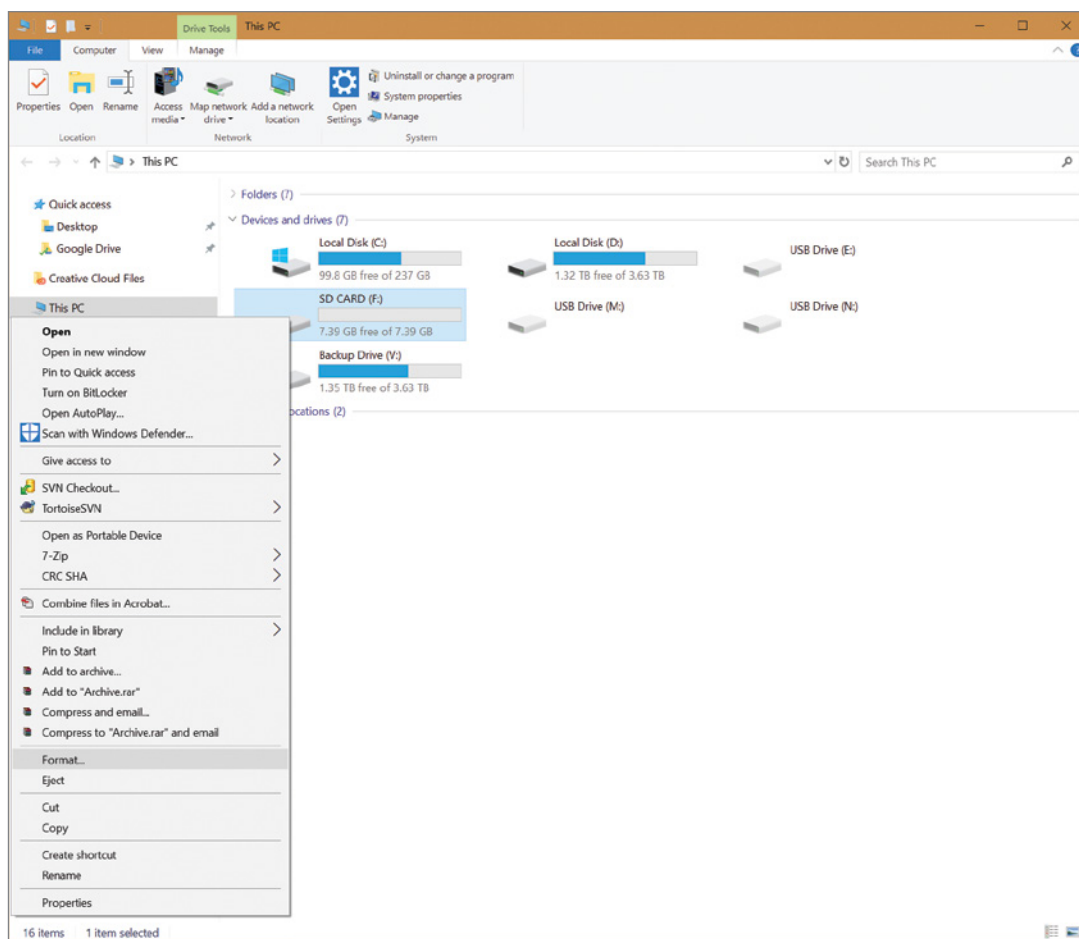

Figure 14-2: Format option selected
2. Right-click the card (it probably has a different name), and select the Format option (see Figure 14-2). A window appears with options for formatting the card.